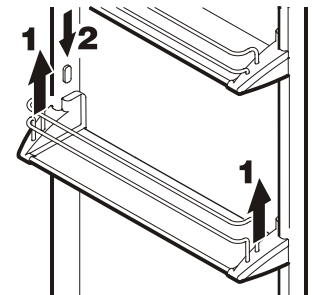

Figure 8
Repositioning the door racks - Figure 8
- Remove the door racks as shown in *Figure 8*.